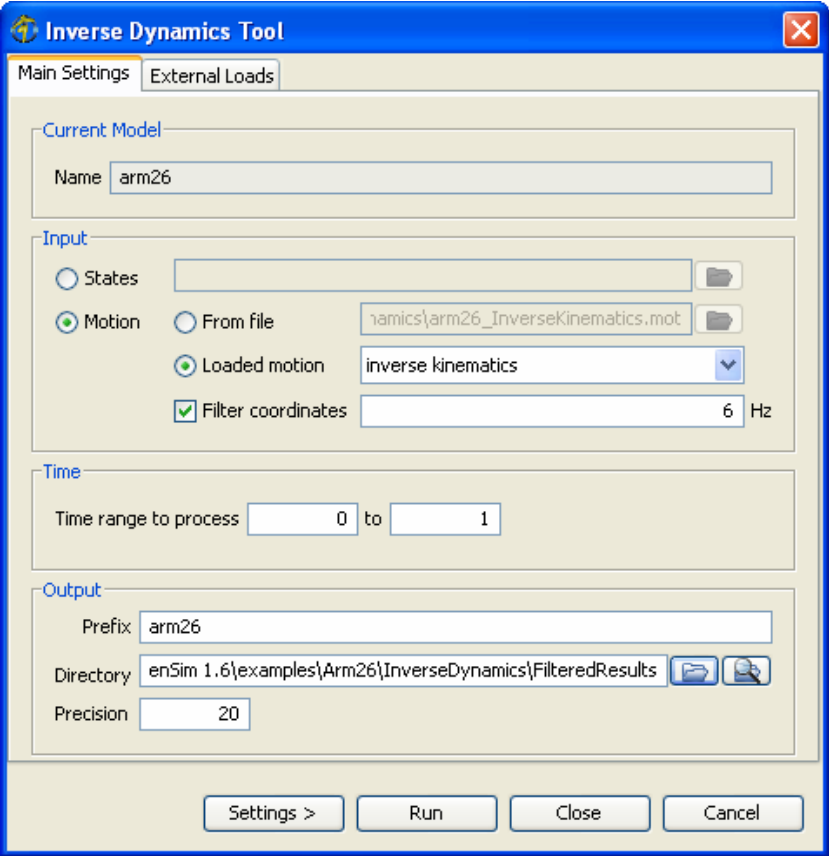

Figure 4-1: Dialog for the Inverse Dynamics Tool. The main settings pane.
To launch the Inverse Dynamics Tool select **Inverse Dynamics...** from the **Tools** menu. The **Inverse Dynamics Tool** dialog (Figure 4-1) like all other OpenSim tools operates on the *Current Model* open and selected in OpenSim (e.g., *arm26*). The Inverse Dynamics Tool is controlled by a dialog with two tabbed panes. The **Main Settings** pane specifies parameters relating to the input kinematics of the current model, the time range for the analysis, and the output of the results. The **External Loads** pane specifies parameters relating to the external loads applied to the model during the analysis.
The Main Settings pane (Figure 4-1) is organized into four main sections entitled **Current Model**, **Input**, **Time**, and **Output**. The **Current Model** section displays an uneditable name for the current model being used for the inverse dynamics analysis. The **Input** section displays editable information specifying the kinematics (e.g., states or motion) describing the movement of a model. The **Time** section displays editable information specifying the start and end time for the inverse dynamics analysis. The **Output** section displays editable information specifying the prefix appended to the resulting output file, the directory to which the file is saved, and the precision (number of decimal places) used when writing results. You may use the  button to browse for a directory to save the output files, and the  button to open an explorer to the specified directory.
1. **Open Inverse Dynamics Tool.** To open the tool (Figure 4-1), select **Inverse Dynamics...** from the **Tools** menu.